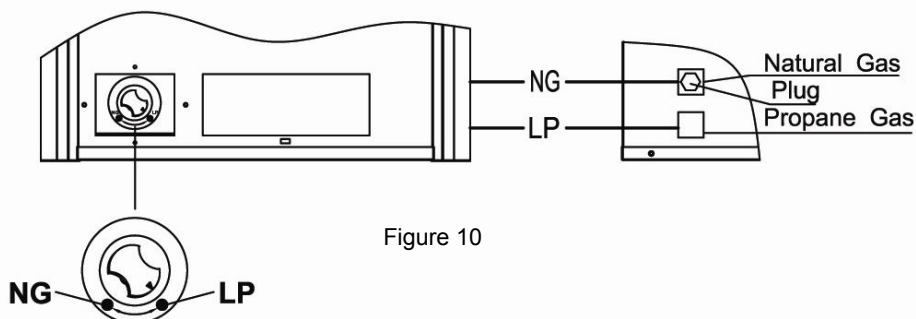

Figure 10
2. For propane gas, press in knob using a flat screw driver with a blade the thickness of a quarter and turn knob counterclockwise  until the knob locks into the LP position (see figure 10). Selection valve must be locked into the LP position.